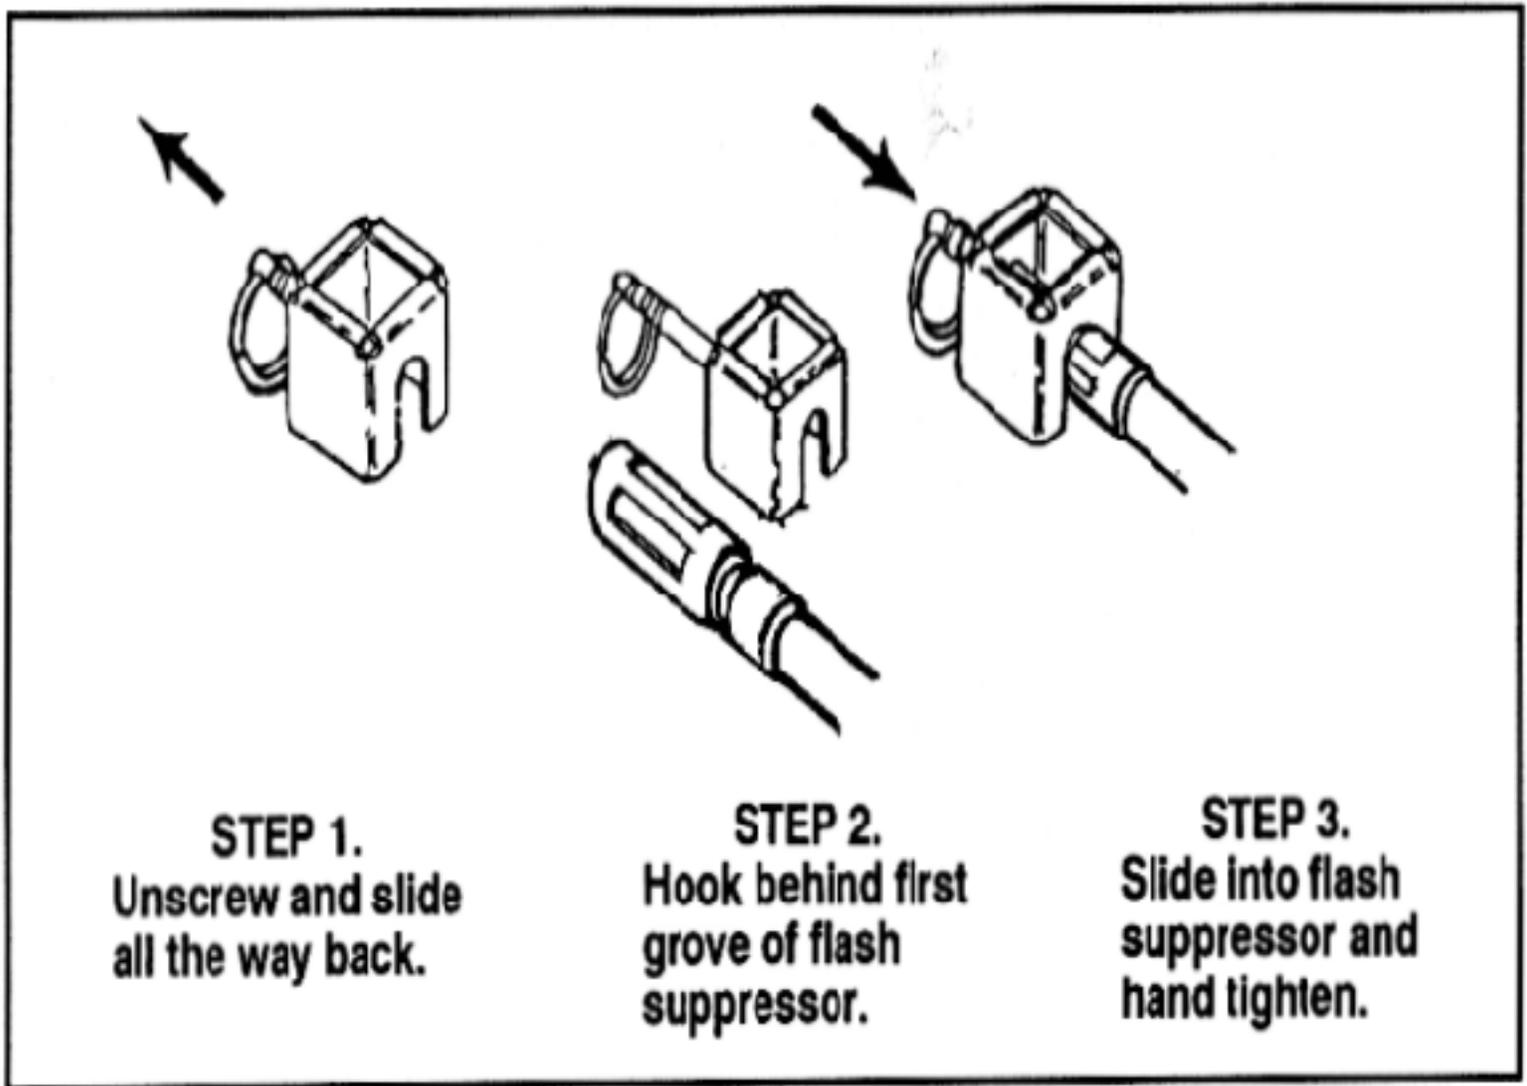

Figure 1-7. M15A2 BFA.
a. **Installation.** The BFA is attached to the M249 AR by using the three steps in Figure 1-7.
Figure 1-7. M15A2 BFA.